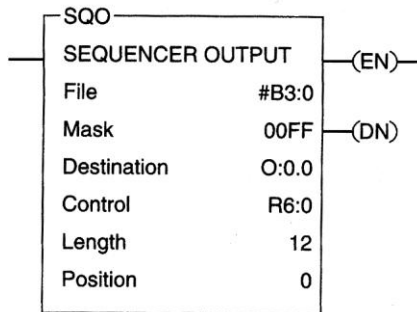

Figure 12-15 Sequencer output instruction for question 22.
22. The sequencer output instruction of Figure 12-15 will send the data in file (a) ____ out to the (b) ____ output connections through the (c) ____ value. The length of the file is specified as 12 (d) ____.